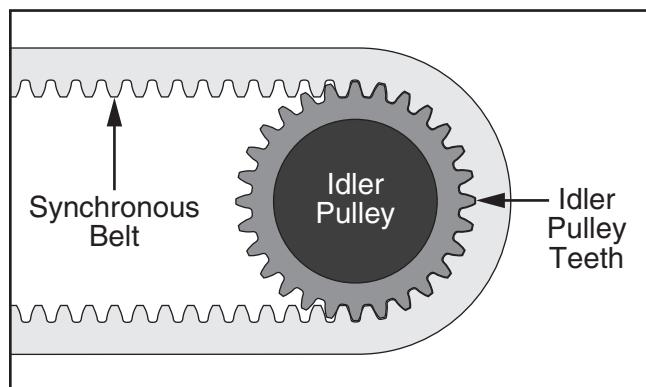

Figure 92. Synchronous belt meshing with idler pulley teeth.
- Verify belt meshes with all idler pulley teeth (see **Figure 92**).